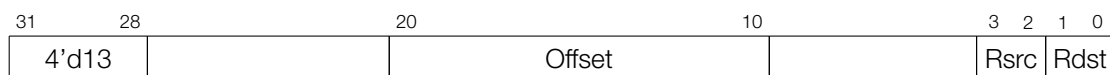

Figure 144: Instruction Type – LD
**Operand**    **Description** - see Figure 144